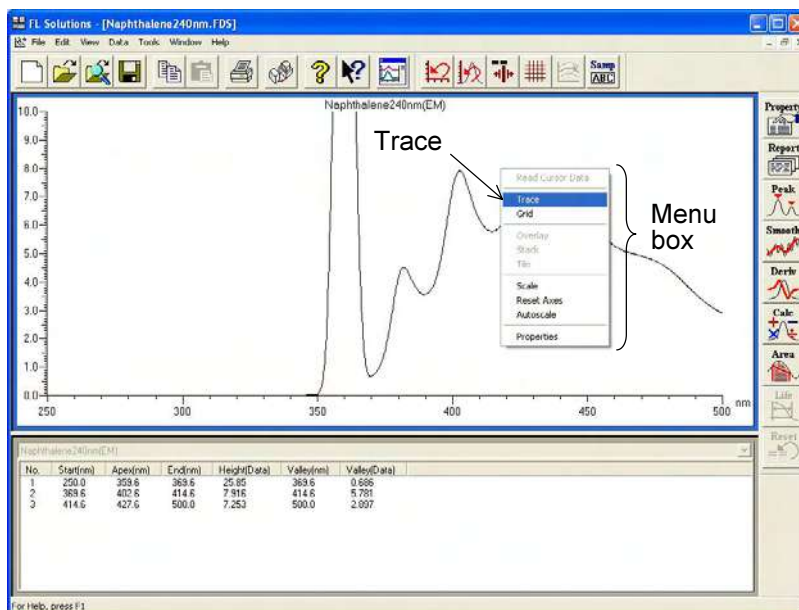

Fig. 7-4
- (2) Bring the mouse pointer onto the displayed spectrum and right-click the mouse. A menu box as in Fig. 7-4 will appear. Select "Trace" from the menu box.